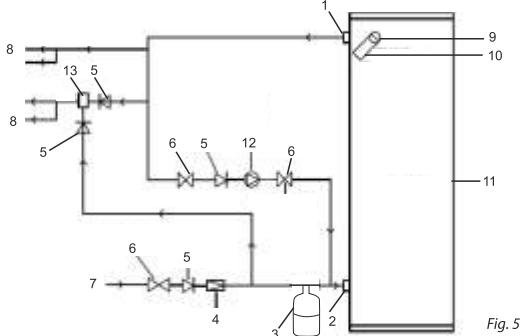

Fig. 5
- While installing the water heater, if the distance between the device and consumers is considerable, it is possible to use the connection to water main with water recirculation and temperature control, which will allow minimizing of waiting time for hot water delivery (see Fig. 5).
Connection of the water heater with water recirculation and temperature control is shown in Figure 5.